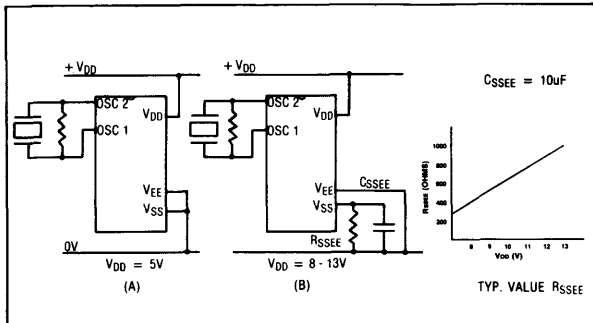

Fig 5 Power supply connection options
The MV8862(3) may be operated from either a 5V or 8 to 13V supply by use of the internal zener reference. The relevant connection diagrams are shown in Fig.5.